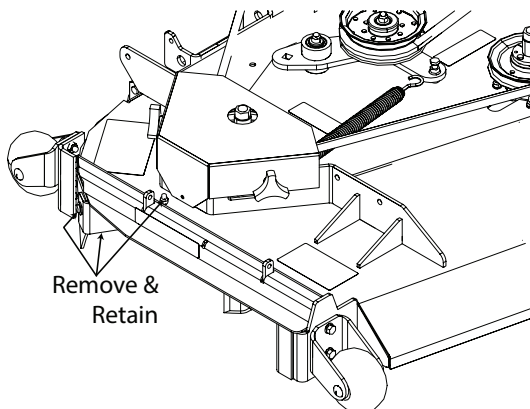

Figure 3-20. Removing the Turbo Baffle
5. Remove the turbo baffle from the cutter deck. See Figure 3-20.